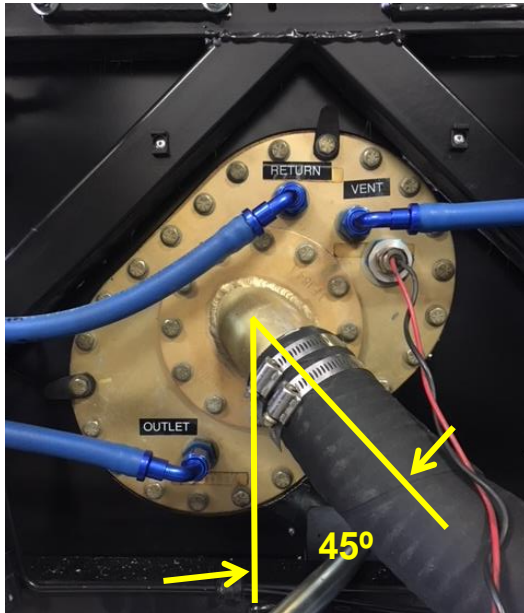

Figure 25 – Filler Neck Angle
3. Reassemble the aluminum hose adapter with a new gasket (Part # G591916) about 45° off vertical (See Figure 25). The hose will curve down to within about 1" to 2" above the level with the floor.